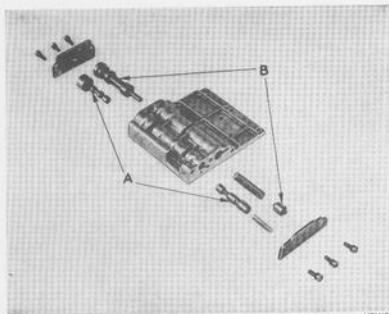

Fig. 4-94. Upper valve body
15. Remove the six screws and end plate from the upper valve body, see Fig. 4-94. Remove the following parts from the rear end of the body: shift valve 2—3, inner spring and plunger together with shift valve 1—2. The spring and plunger for shift valve 1—2 are removed in the other direction.